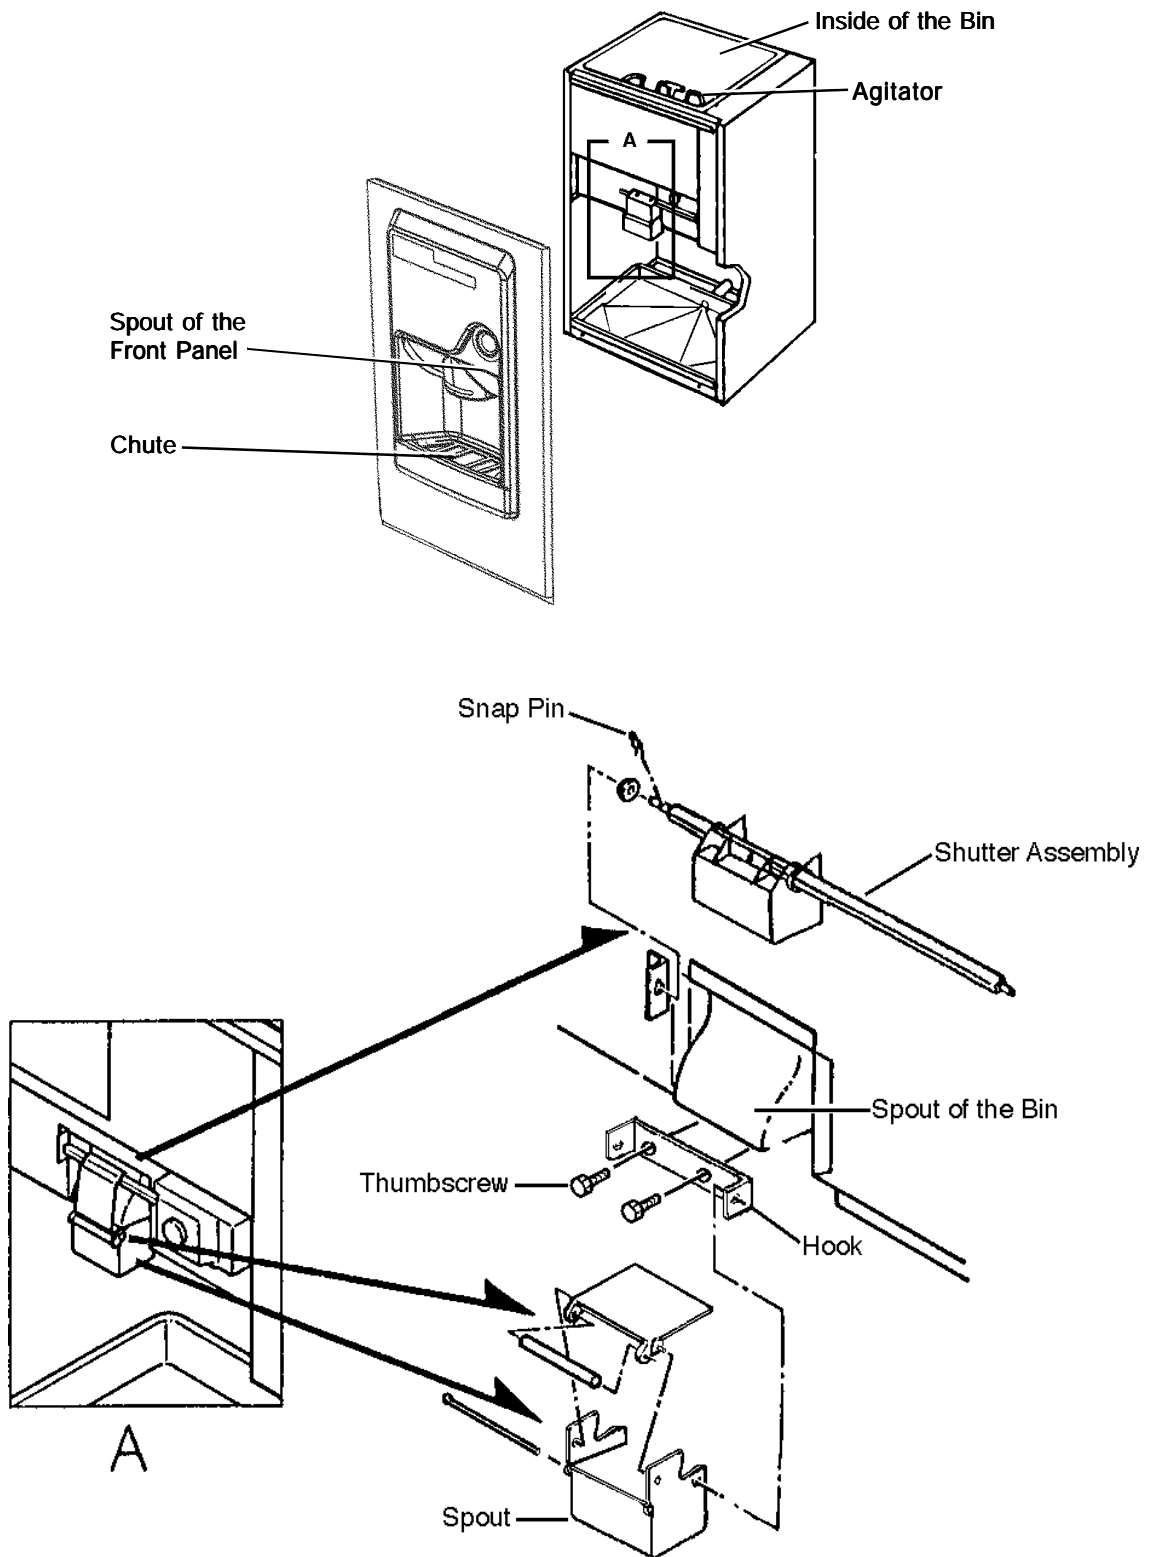

Fig. 5
- 7) Scrub the Shutter Assembly and Spout—after removing them—using the cleaning solution of item 6. See Fig. 5.